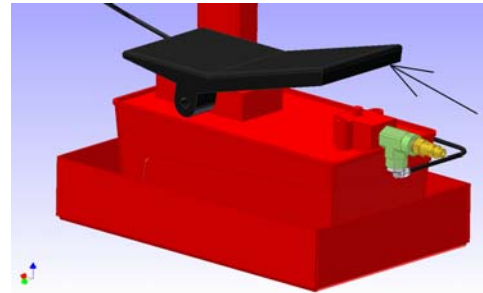

Figure 3
To activate hydraulic pump and apply pressure to system to raise machine, depress the up pedal on the foot pump (See figure 3). The pump will build hydraulic pressure in the system to activate lift cylinders.
2. Depress and hold the "UP" pedal on the foot pump to raise the machine until the safety lock arm audibly releases from its lock position. (See figure 3)